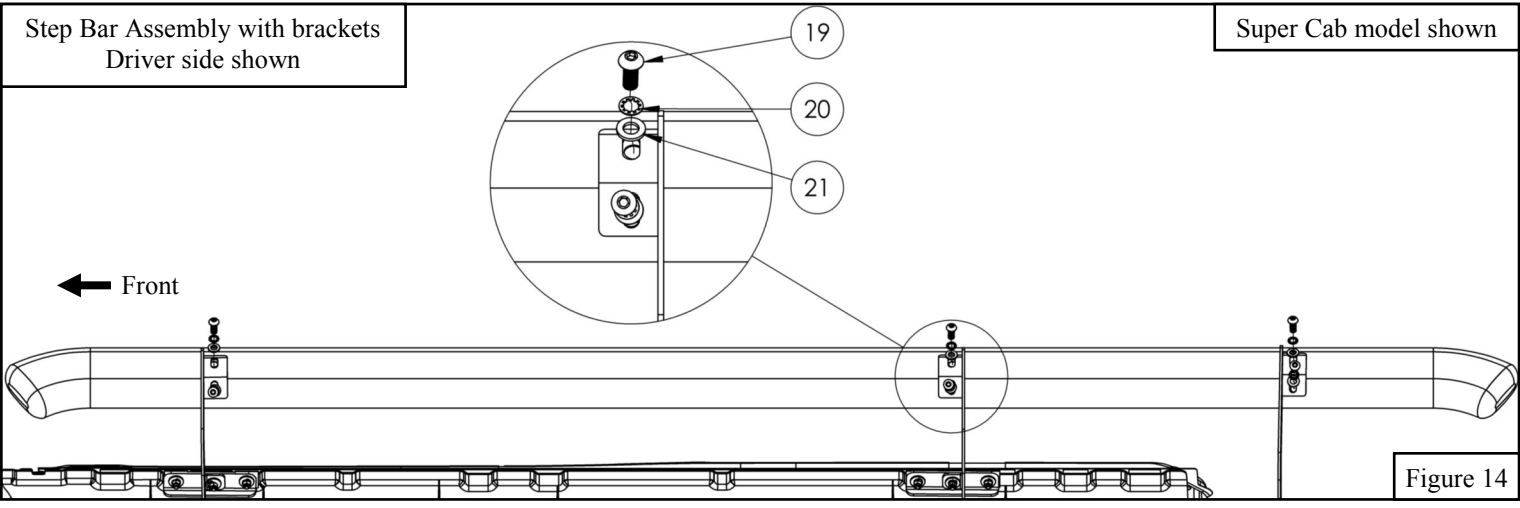

Figure 14
14. Loosely install the Driver Step Bar Assembly using M10 button head cap screw (Item 19), M10 internal toothed lock washer (Item 20), and M10 flat washer (Item 21). **Note:** Super Cab model will have extra hardware. See **Figure 14**.